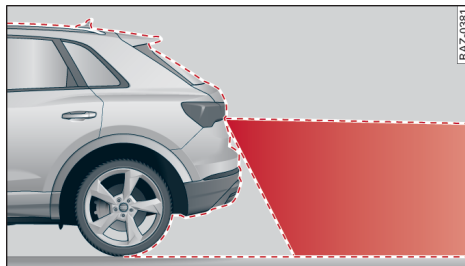
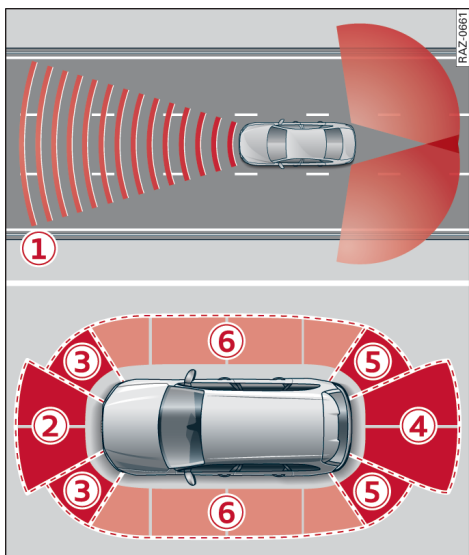

Fig. 96 Area covered by reversing camera
Fig. 95 Areas covered by sensors
Depending on the vehicle's equipment, the area in front of and behind the vehicle can be detected ⇒ *Fig. 95* ①.
Depending on the vehicle's equipment, ultrasonic sensors may be used to depict various areas on the MMI ⇒ *Fig. 95*.
The reversing camera is only able to detect the area shown in red ⇒ *Fig. 96*. Only this area is shown on the centre display ⇒ .
- The areas covered by the sensors ⇒ *Fig. 95* and cameras ⇒ *Fig. 96* are examples and do not represent the range to scale.